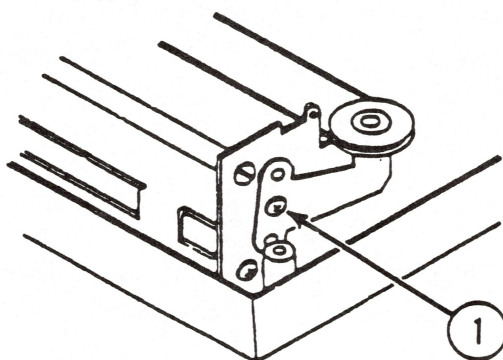

FIGURE 12
13. Tighten the tension screw until the wire is taut (see Figure 12, #1).